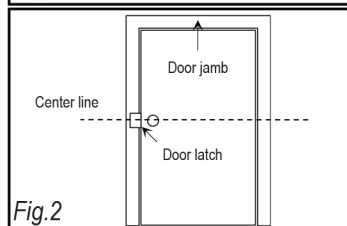

Fig. 2
2. Measure the center line (see Fig. 2).